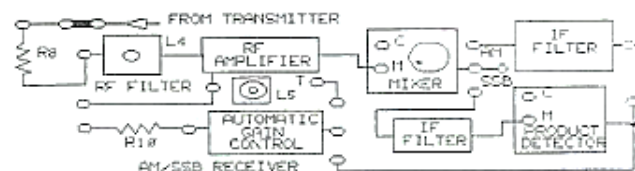

Figure 3-21.
11. With a two-post connector, connect the TRANSMITTER to the 1 MΩ resistor (R8) at the AM/SSB RECEIVER circuit block input (Figure 3-21).